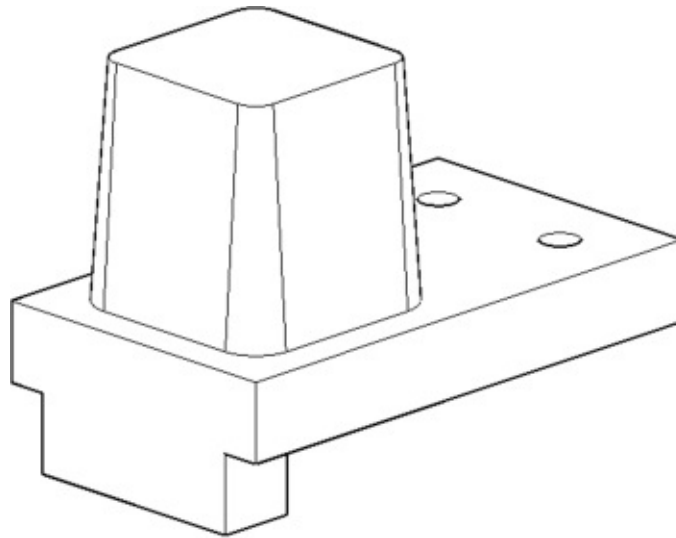

FIGURE 22.8 The extruded polyline
6. At the Specify height of extrusion or [Direction/Path/Taper angle/Expression]: prompt, enter **3** ↵. The extruded polyline looks like Figure 22.8.